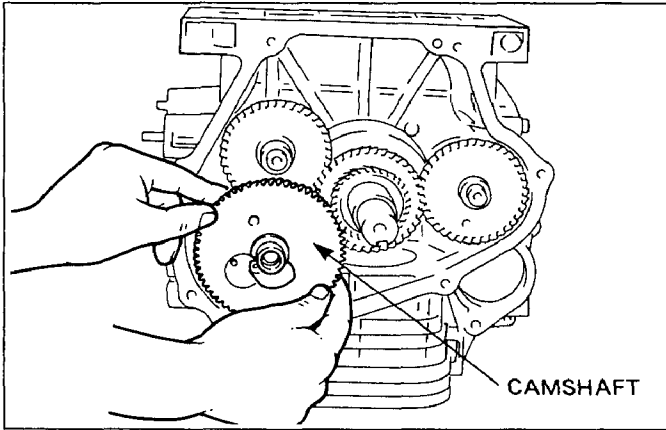

Fig. 37
| 27 | Camshaft and tappets | (1) Remove camshaft from crankcase. (2) Remove tappets from crankcase. | (1) To prevent tappets from getting damages, put crankcase cylinder side down. (See Fig. 37.) (2) Put marks on tappets to distinguish intake from exhaust. | |